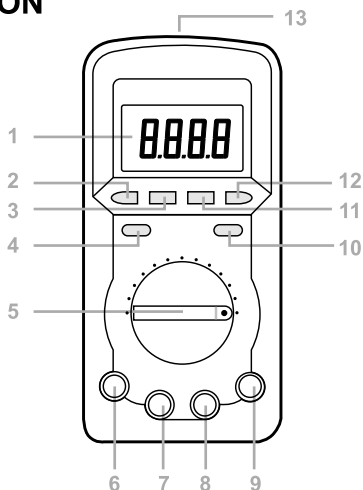

Figure 1
13. For EM130USB, there is a socket for the plug of the USB data cable for meter-to-pc communication. This socket is located on the top of the meter and is marked "13" in Figure 1.